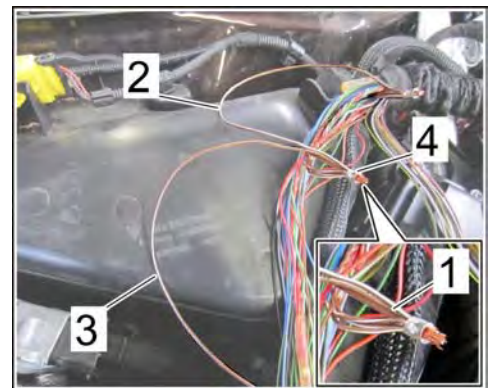

Figure 8
- Make sure that all strands are contained in the BDM clip and are sticking out by about 2 mm (⇒ *Figure 8-inset-*).